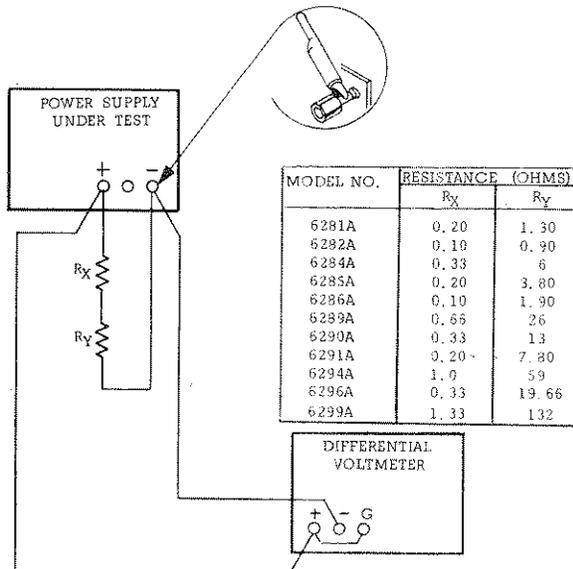

Figure 5-5. Load Regulation, Constant Voltage
- Connect test setup as shown in Figure 5-5.
- Connect test setup shown in Figure 5-5.